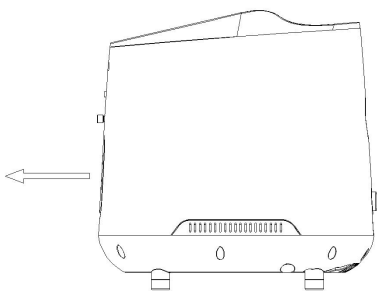

Figure 10
- (1) Pull out the humidification water tank along the direction shown in the figure (Figure 10)